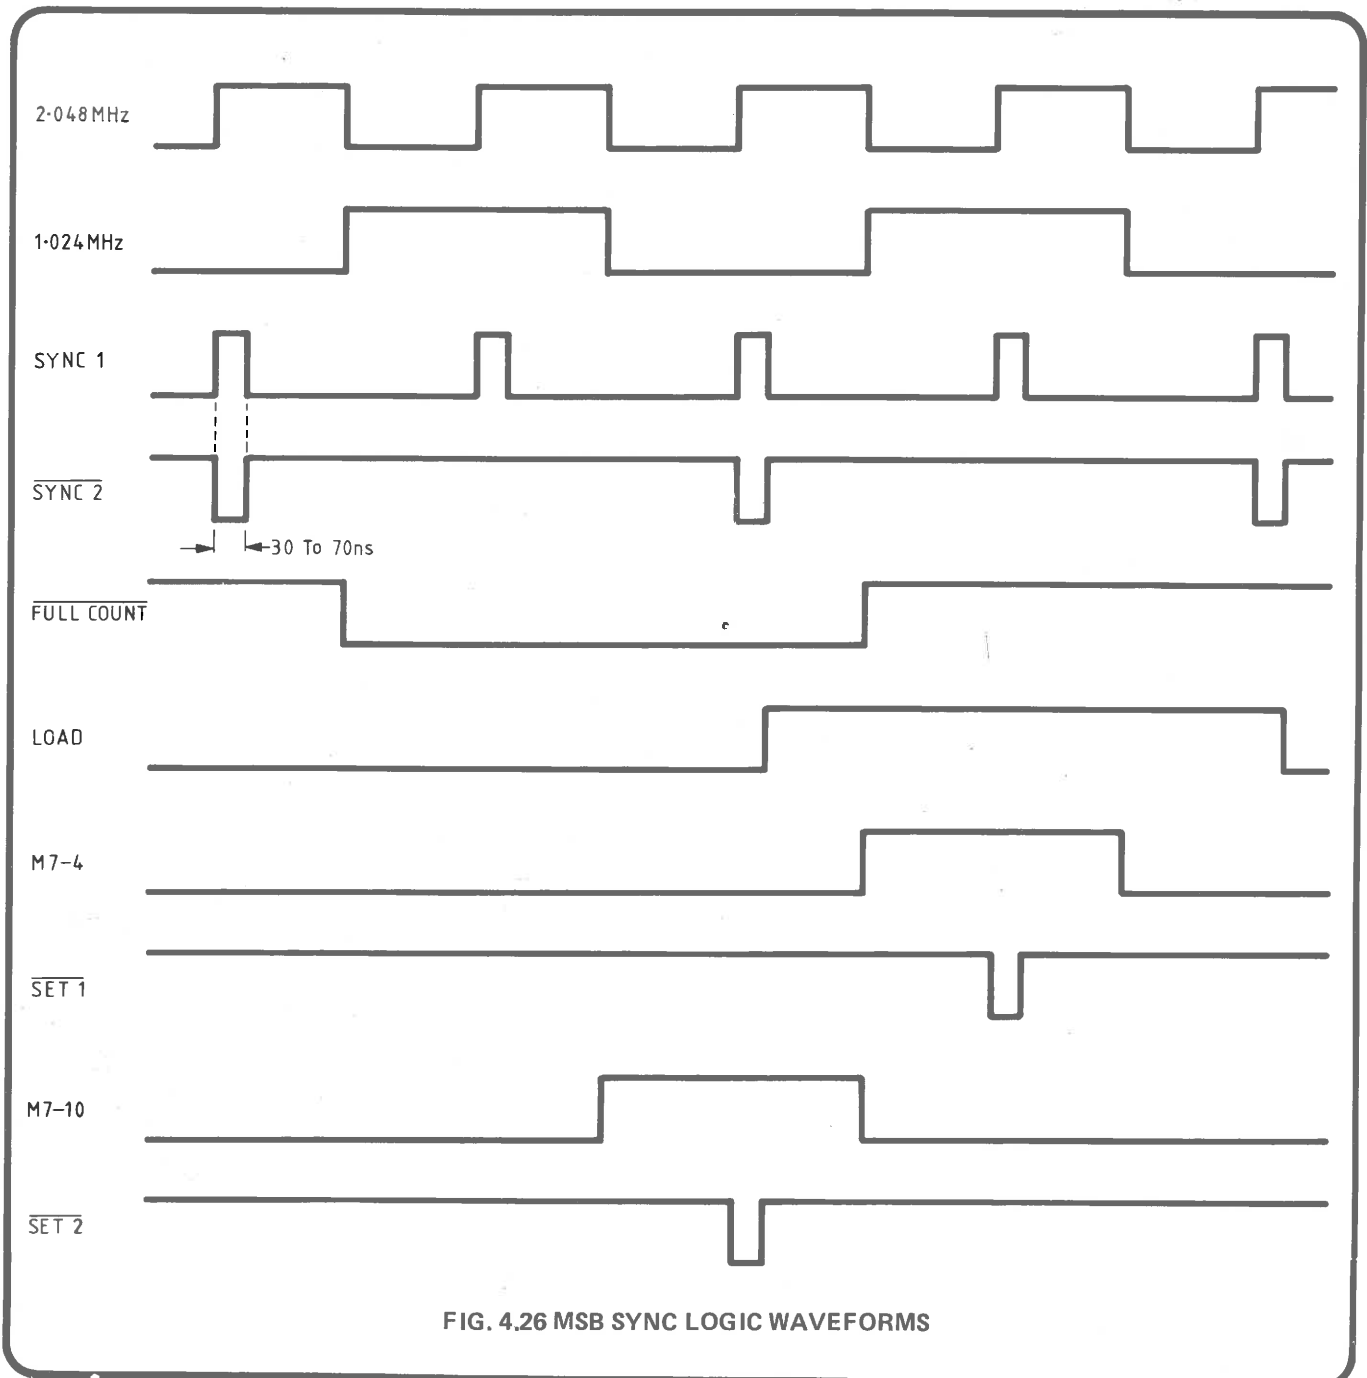

FIG. 4.26 MSB SYNC LOGIC WAVEFORMS
4.6.2.4 MSB Sync Logic (Circuit Diagram No. 430443 Sheet 2) (refer to Fig. 4.26 for waveforms)
SYNC 2 is obtained by NAND gating 1.024 MHz and SYNC 1 to give a synchronizing pulse at half the rate of SYNC 1. (See Fig. 4.26)